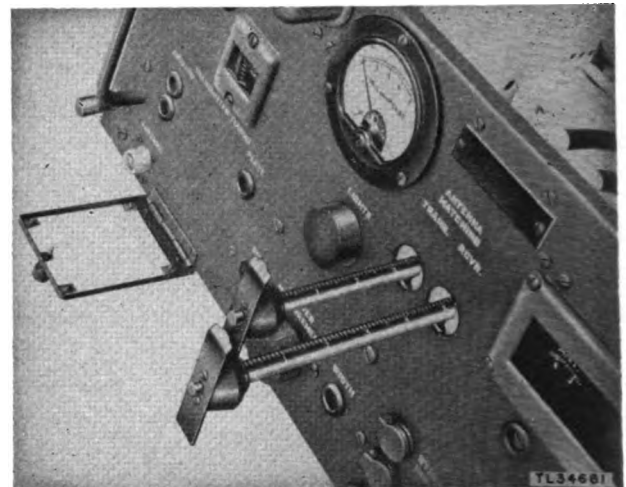

Figure 78. Adjusting rod of antenna matching section.
f. The ANTENNA MATCHING section is used to enable the receiver and transmitter to work into a common antenna (fig. 78). The setting should correspond roughly to maximum length of the matching section (0 on the calibrated bakelite rods) for the low-frequency end of the band, and minimum length of the matching section (7.5 on the rods) for the high-frequency end.
(1) PLATE CAP. (plate capacity): Preset for tubes at factory.
(2) ANT. (antenna tuning): Set at any position and peak for desired frequency according to detailed instructions which follow.
(3) PLATE (transmitter tuning): Set for desired frequency.
(4) ANT, RF, DET, and OSC (receiver tuning): Set for desired frequency. Be sure that the oscillator and detector circuits are set at the same reading of the dials.
(5) ANTENNA MATCHING: Set approximately at the desired position as indicated in paragraph *p* above.
(6) LIGHTS (dial lights control): Set at any position.
(7) WIDTH: Set at extreme counterclockwise position.